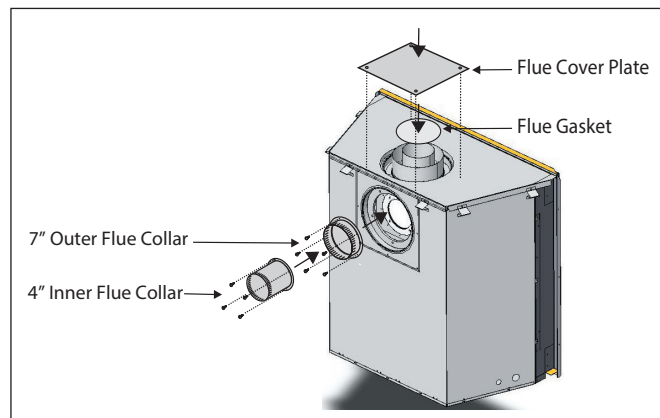

Figure 9a. Flue cover and collar installation, Rear Vented fireplace.
3. Install the (removed) Rear flue cover and gasket material, to the Top vent outlet. Fasten the cover with included hardware, as illustrated Figure 9a.
4. Install the (4" and 7") collars to the rear vent outlet using the included hardware, as illustrated Figure 9a.